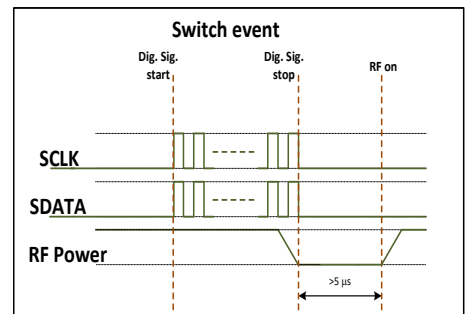

Figure 3 Switch Event Timing
1. Once VIO is powered down to 0V, wait a minimum of 10 μ s to reapply power to VIO. (see figure 3)